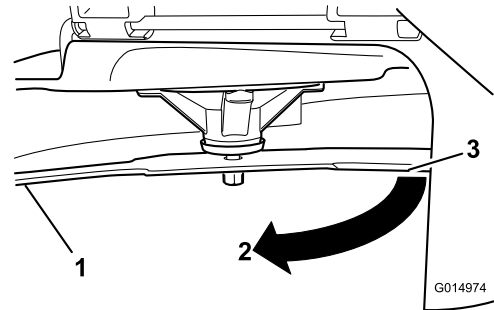

Figure 68
4. Rotate the same blade 180 degrees so that the opposing cutting edge is now in the same position (Figure 68).